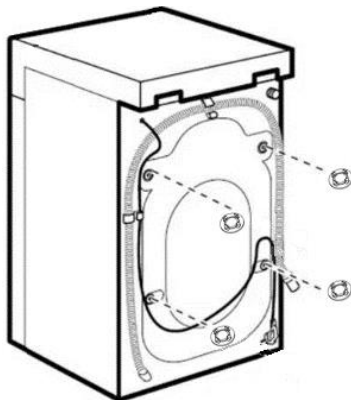

Fig. 3
4. Use the supplied protective covers to cover the bolt holes (see Figure 3).